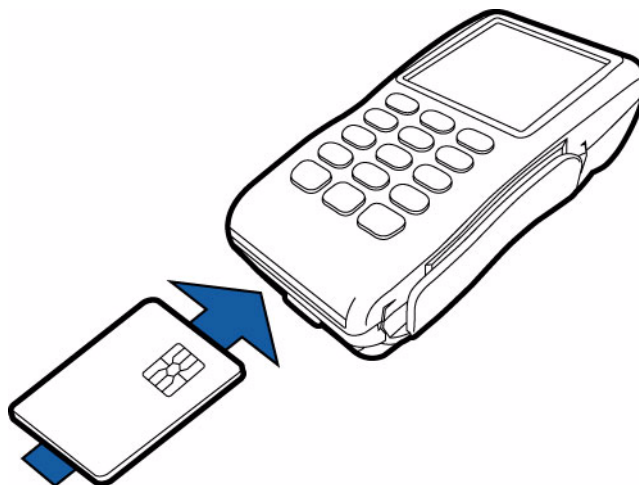

Figure 31 Inserting a Smart Card
- 1 Position a smart card with the contacts facing upward (see Figure 31).